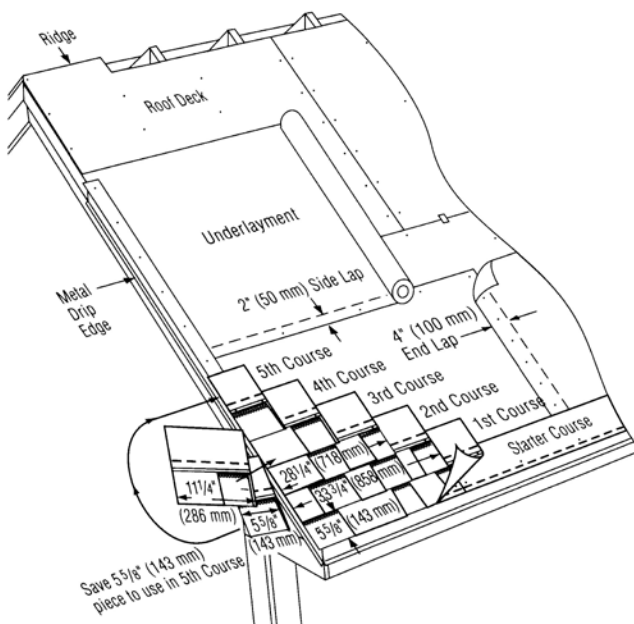

Figure 15-10: Applying the first 5 courses on a standard slope.
1ST COURSE: Apply a full shingle at the lower left corner of the roof. Make the lower edge and left edge lie flush with the edges of the starter course (*Figure 15-10*).
1. Cut $5\frac{5}{8}$ " off the left end of the first shingle and save this piece for later use. Apply the $33\frac{3}{4}$ " long piece over and above the first-course shingle. Leave the bottom $5\frac{5}{8}$ " tab portion of the first-course shingle exposed (*Figure 15-10*).